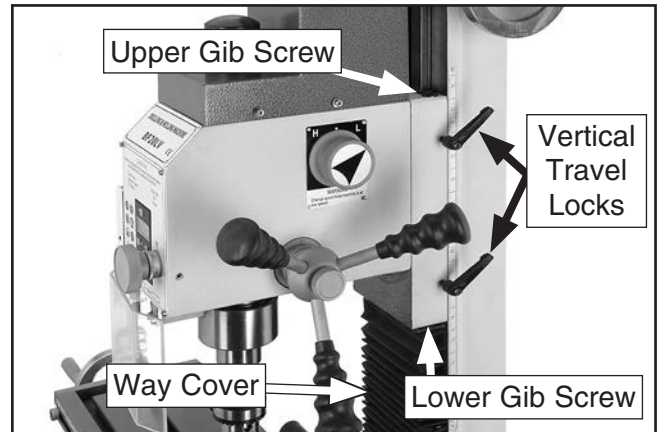

Figure 56. Headstock gib adjustment.
2. Remove the two screws that secure the top end of the way cover, pull it down to expose the lower gib screw, then loosen the vertical travel locks (**Figure 56**).
3. Loosen or tighten the upper and lower gib screws (**Figure 56**) in an alternating manner to adjust the headstock gib.